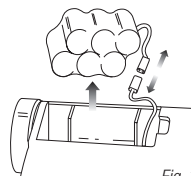

Fig. 16
- 4 Carefully lift out the battery pack and disconnect the wire terminals by pressing on the latch and pulling apart the wire terminal connectors. Remove the battery pack. (Fig. 16)